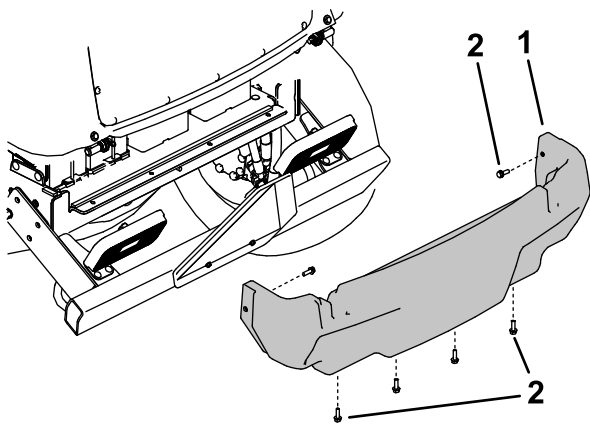

Figure 112
5. Remove the 6 flange screws securing rear shroud to the frame and remove the rear shroud (Figure 112).
4. Install the rear shroud (Figure 112).